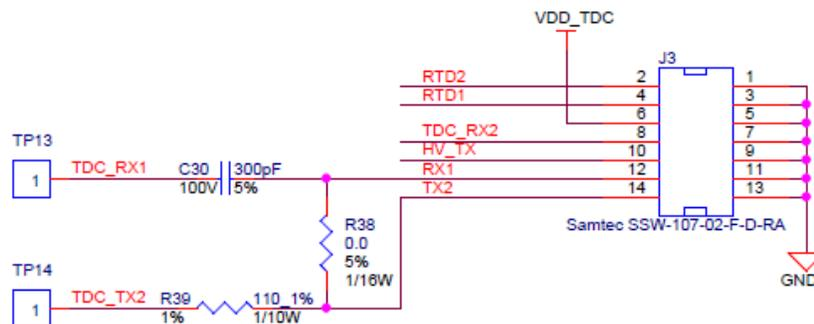

Figure 2 - RX1 and TX1 connection
Since the sensor has the ability to transmit and receive on the same pin, the transmit pin (TX) must be tied to the receive pin (RX). In this application, we chose to connect RX1 to TX2 via R38, as seen in Figure 2.